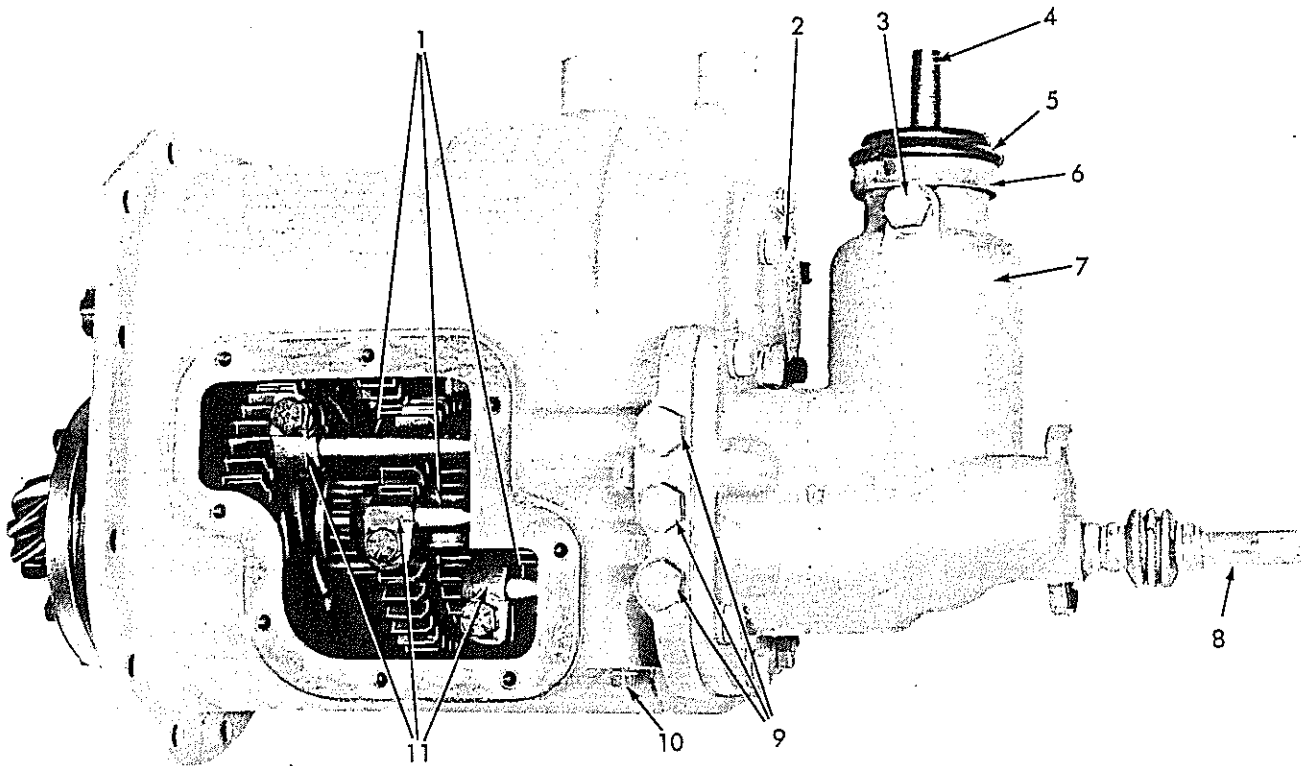

Fig. 3 Transmission Assembly - Side Cover Removed
8. Remove shifting shaft ball spring capscrews Fig. 3 (9); tilt transmission and allow steel balls and springs to fall from capscrew holes.
9. Remove pipe plug Fig. 3 (10); hold lower shaft shifting fork; pull shaft from transmission. Two steel detent balls and shifting shaft interlock pin will fall from pipe plug hole as shaft is pulled.
15. Remove top shaft front bearing cover, Fig. 3(2); remove snap ring from front end of shaft. Drive shaft out toward rear of case; remove gears as they are free of shaft.
- c. Insert rear end of shaft through front bore in transmission. Refer to Fig. 1, 2, or 7; install gears on shaft in order and position shown. Push shaft to rear until front bearing is seated in its bore; install front bearing cover, Fig. 3, (with new gasket).